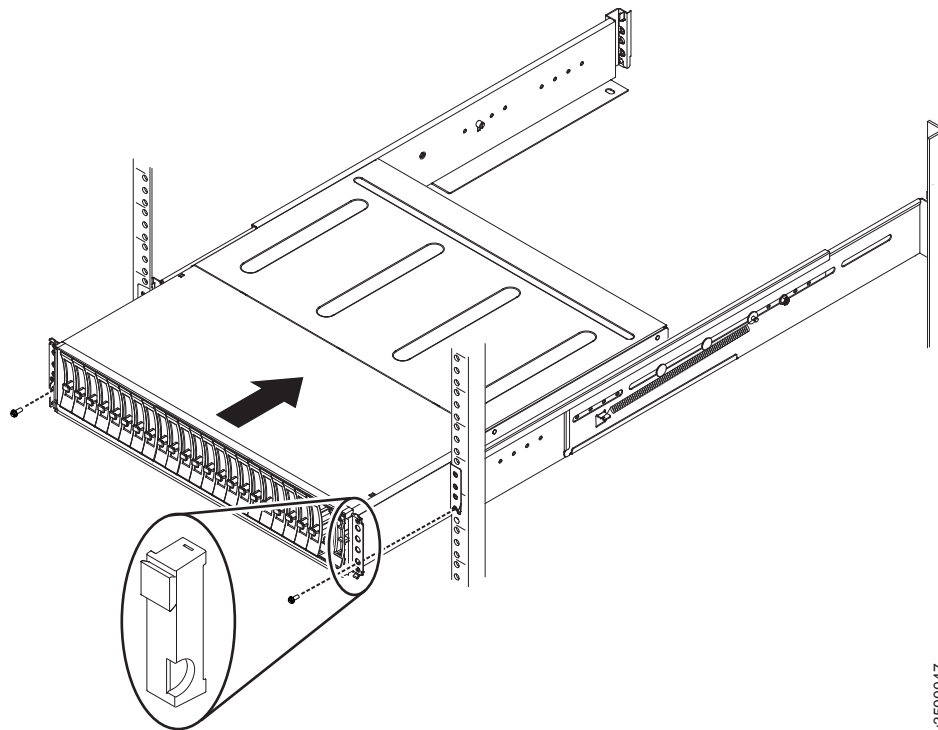

Figure 13. Inserting the enclosure
3. Slide the enclosure into the rack along the rails until the enclosure is fully inserted (see Figure 13).
5. Reinstall the left and right end caps. (See Figure 13 on page 17.) The left end cap has indicator windows that align with the status LEDs (light-emitting diodes) on the edge of the enclosure.